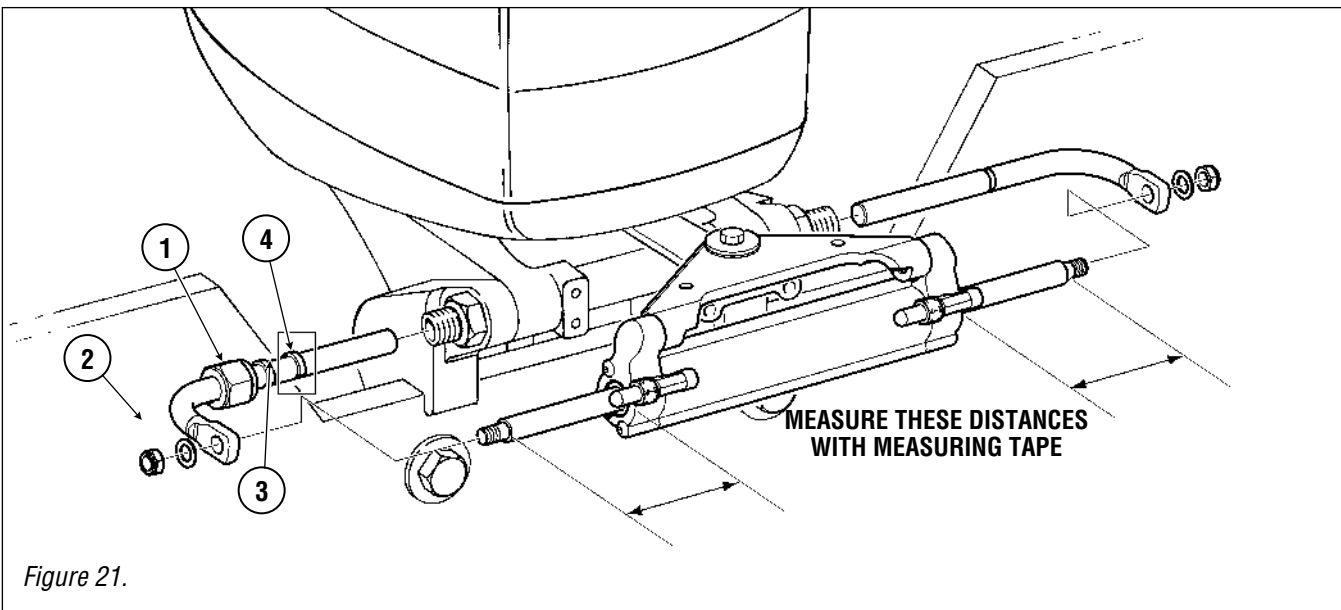

Figure 21.
2. Using a measuring tape, measure the amount of steering rod on both sides of the steering cylinders. (Refer to Figure 21.) If the starboard side of the rod is shorter than the port side by $11/16$ " or more, proceed to Step 3. If less than $11/16$ " your cylinder is centered, continue on with steering installation as per your installation manual.
3. Remove the support rod mounting nut (item 1), the cylinder end nut (item 2), then remove the support rod assembly.
4. Carefully remove the support rod retaining clip (item 3) using a vice, and move the clip to the inner groove (item 4).